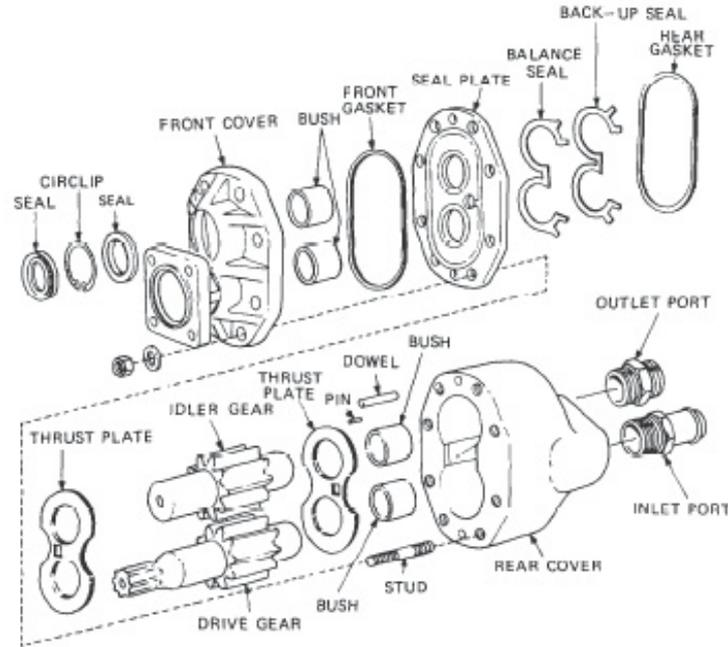

Figure 42 Hydraulic Pump – Exploded View
- Remove the front cover then remove the two seals and the circlip from the cover (Figure 42).
Ensure the window in the rear thrust plate is positioned as illustrated in Figure 42.
Ensure the window in the front thrust plate is positioned as illustrated in Figure 42.
- h. Install the two gears in the seal plate (orientated as shown in Figure 42).